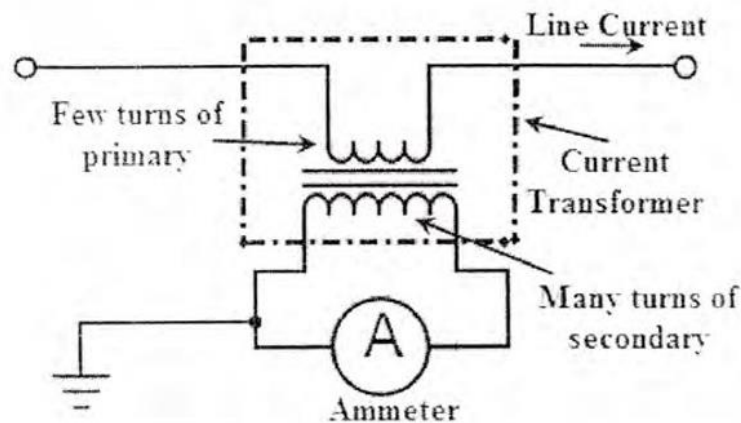

Figure 6.1 Circuit Diagram to Find the Transformation Ratio of Current Transformer
1. Connect the circuit as shown in the Figure 6.1.